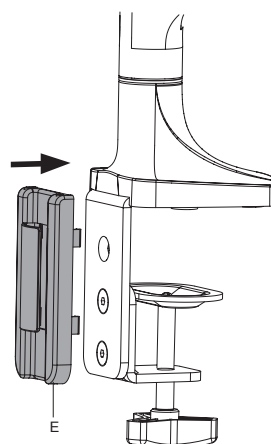

Figure 3C
4. Install the Decorative Cap (E) to the C-Clamp Brace, see Figure 3C.